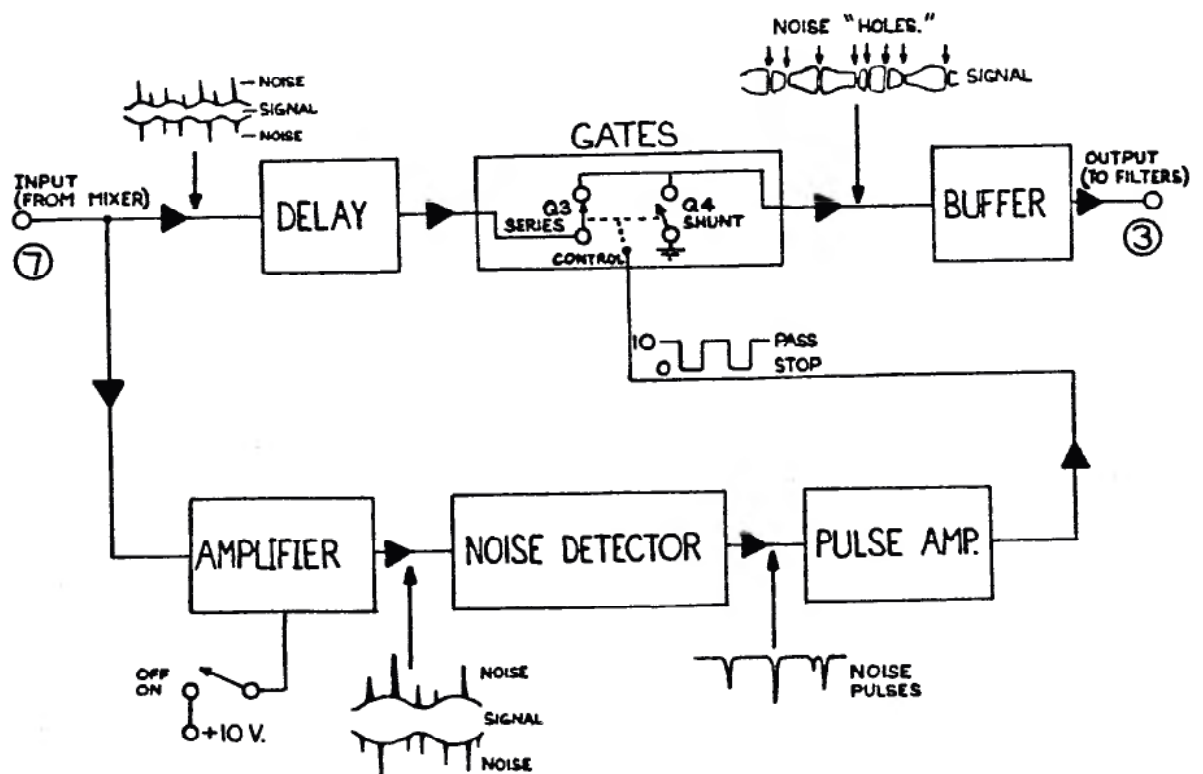

FIGURE 7.1 NOISE BLANKER BLOCK DIAGRAM
7.1 PRINCIPLES OF OPERATION - See Figure 7.1